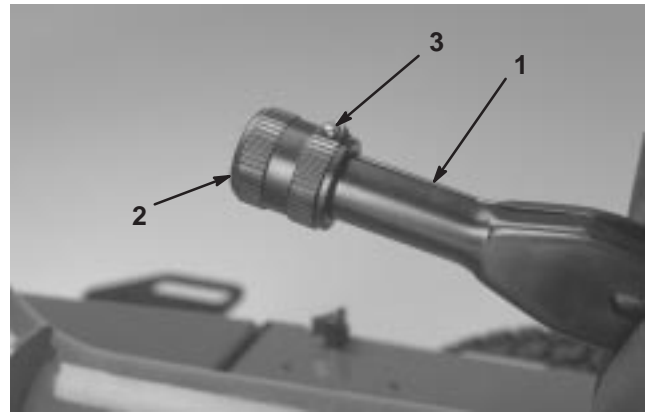

Figure 58
1. Loosen the set screw securing the knob to the parking brake lever (Fig. 58).